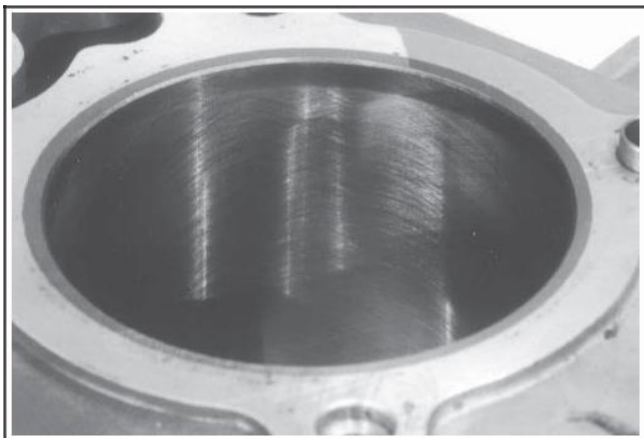

Figure 10-3. Cylinder Bore Crosshatch after Honing.
3. When the bore is within **0.064 mm (0.0025 in.)** of desired size, remove the coarse stones and replace with burnishing stones. Continue with the burnishing stones until within **0.013 mm (0.0005 in.)** of desired size and then use finish stones (220-280 grit) and polish to final size. A crosshatch should be observed if honing is done correctly. The crosshatch should intersect at approximately 23-33° off the horizontal. Too flat at an angle could cause the rings to skip and wear excessively, too steep an angle will result in high oil consumption (refer to Figure 10-3).